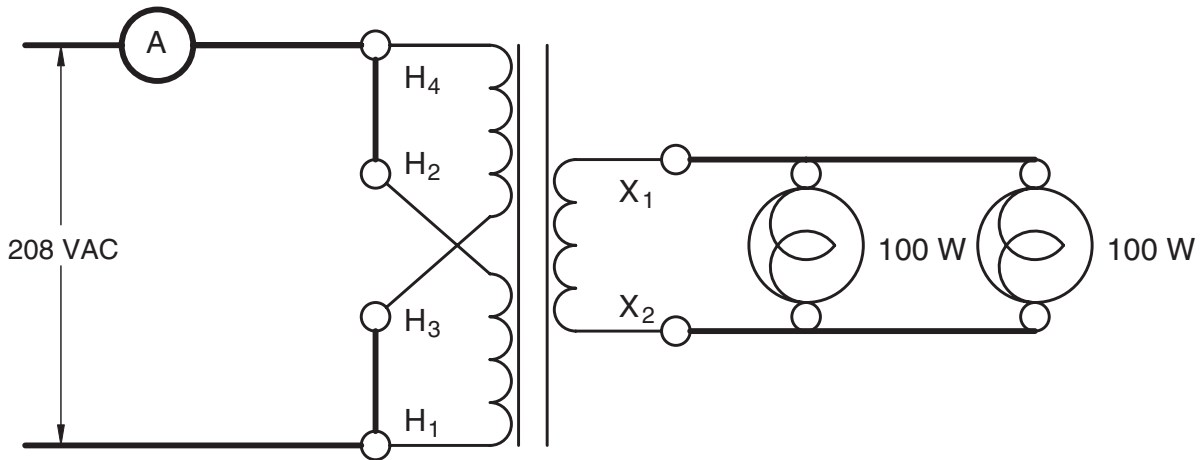

Figure 20-3 Measuring primary current.
11. Reconnect the AC ammeter in one of the primary lines, as shown in Figure 20-3.